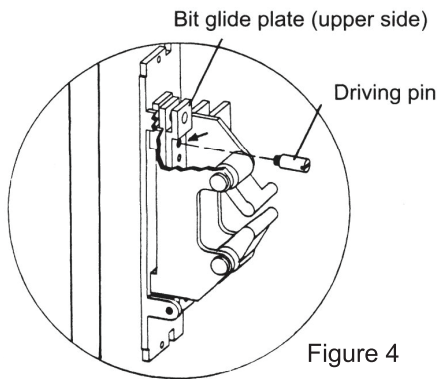

Figure 4
- b. Fasten the driving pin into the upper side of bit glide plate. (See Figure 4.)